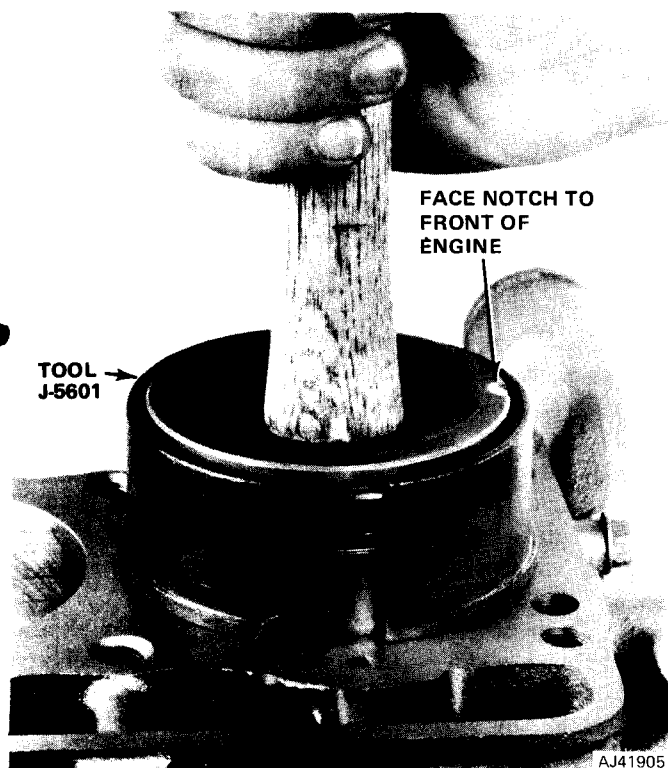

Fig. 1A-36 Piston-to-Bore Installation
(6) Lubricate piston and rings with clean engine oil.
(7) Use Piston Ring Compressor Tool J-5601 to install connecting rod and piston assemblies through the top of the cylinder bores (fig. 1A-36).